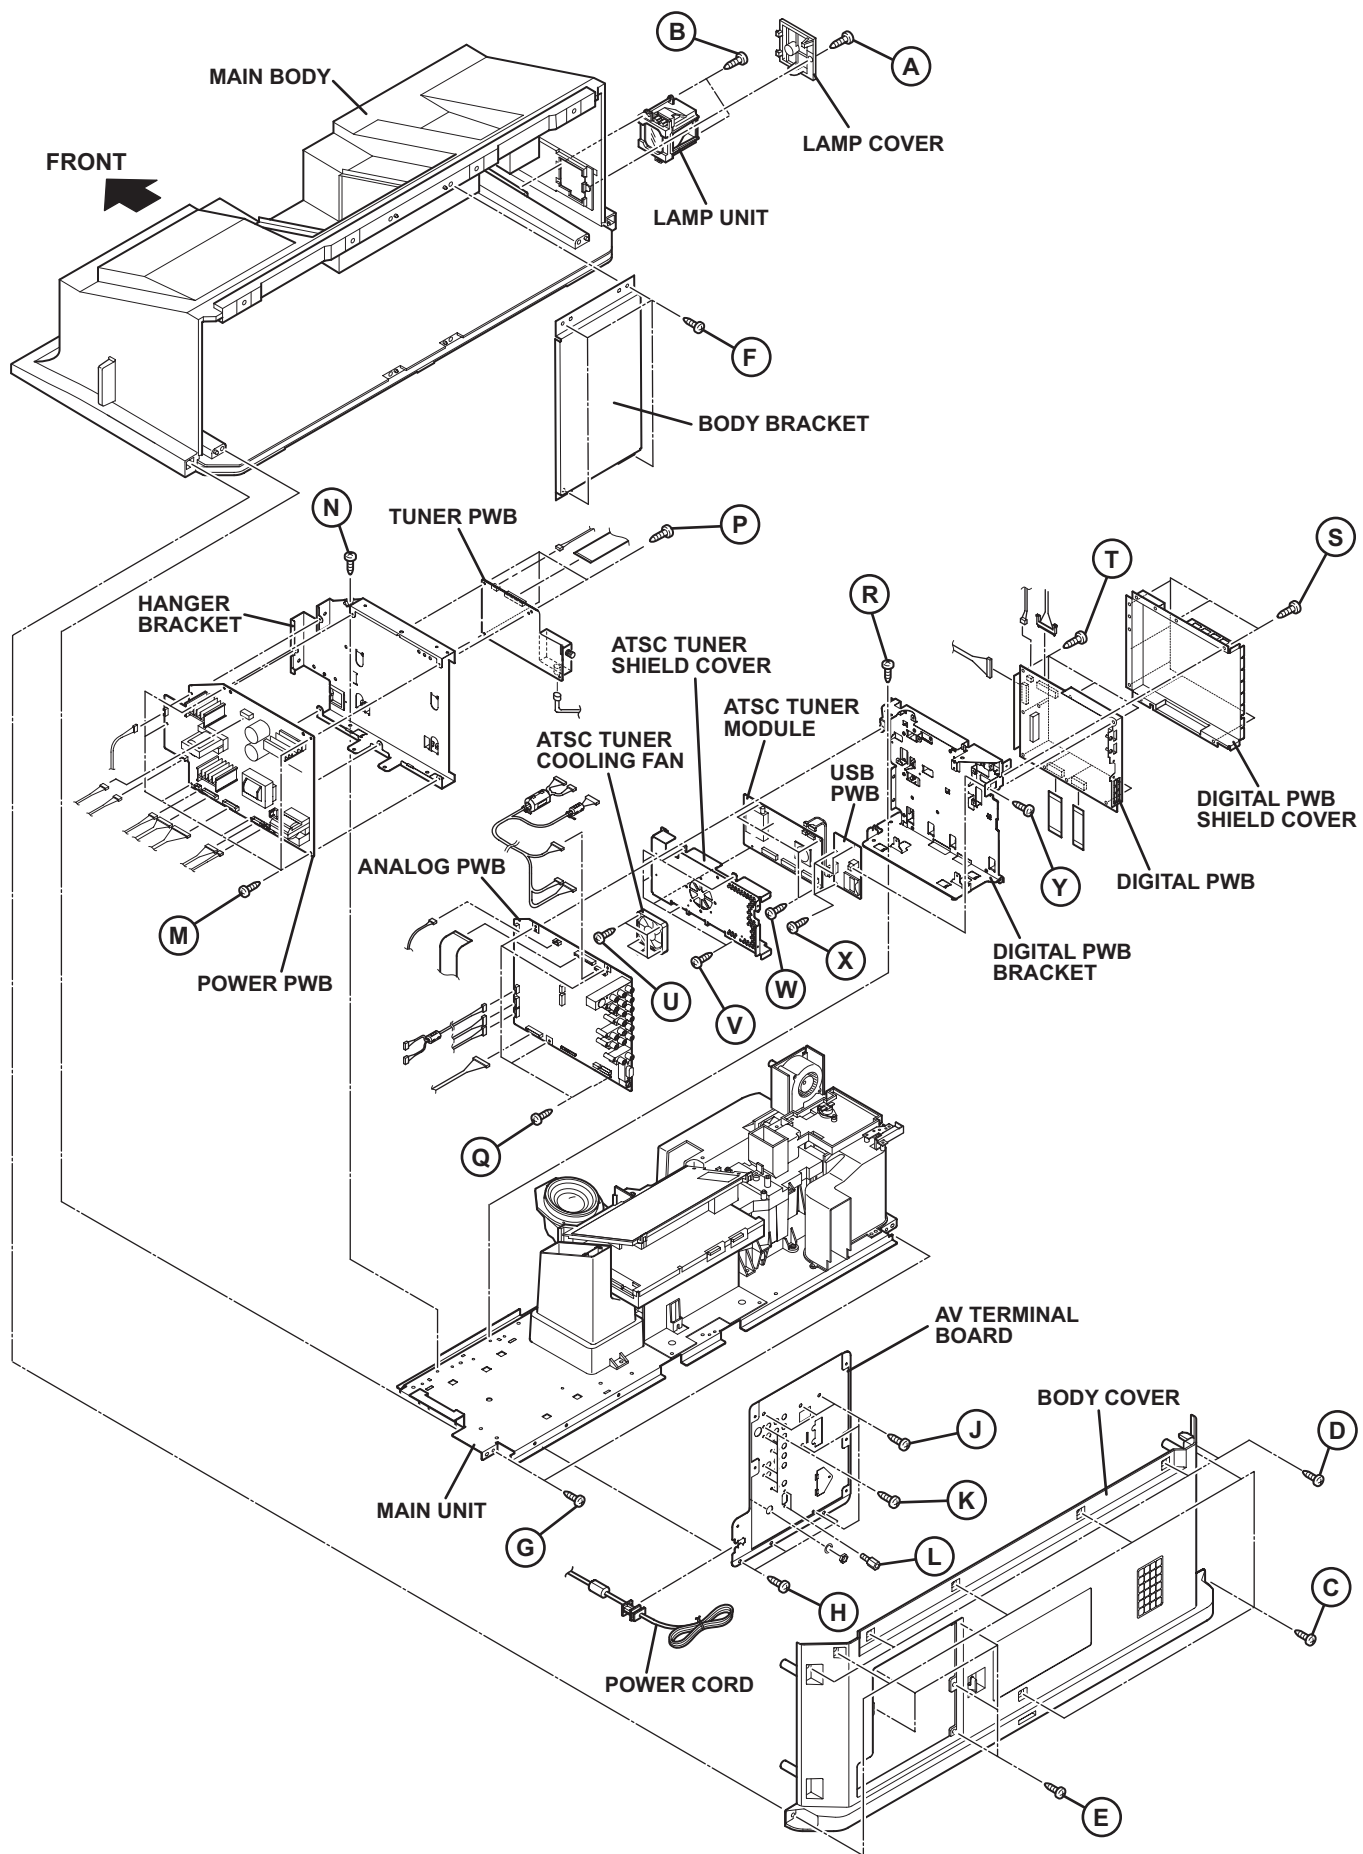

Fig.5
3.1.3.4 REMOVING THE AV TERMINAL BOARD (Fig.5)
3.1.3.5 REMOVING THE POWER PWB (Fig.5)
3.1.3.6 REMOVING THE TUNER PWB (Fig.5)
3.1.3.7 REMOVING THE ANALOG PWB (Fig.5)
- (1) Remove the 4 screws [Q].
- (2) Remove the ANALOG PWB.
3.1.3.8 REMOVING THE DIGITAL PWB (Fig.5)
3.1.3.9 REMOVING THE ATSC TUNER COOLING FAN (Fig.5)
3.1.3.10 REMOVING THE ATSC TUNER PWB (Fig.5)
3.1.3.11 REMOVING THE USB PWB (Fig.5)